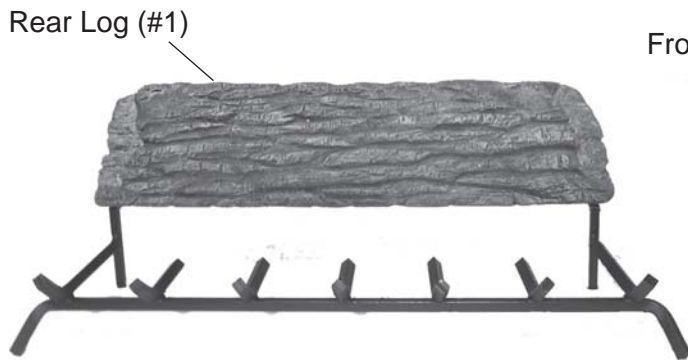

Figure 35 - Centering Rear Log (#1)
2. Center rear log #1 on grate bars and flush with rear of the grate. *See Figure 35.*